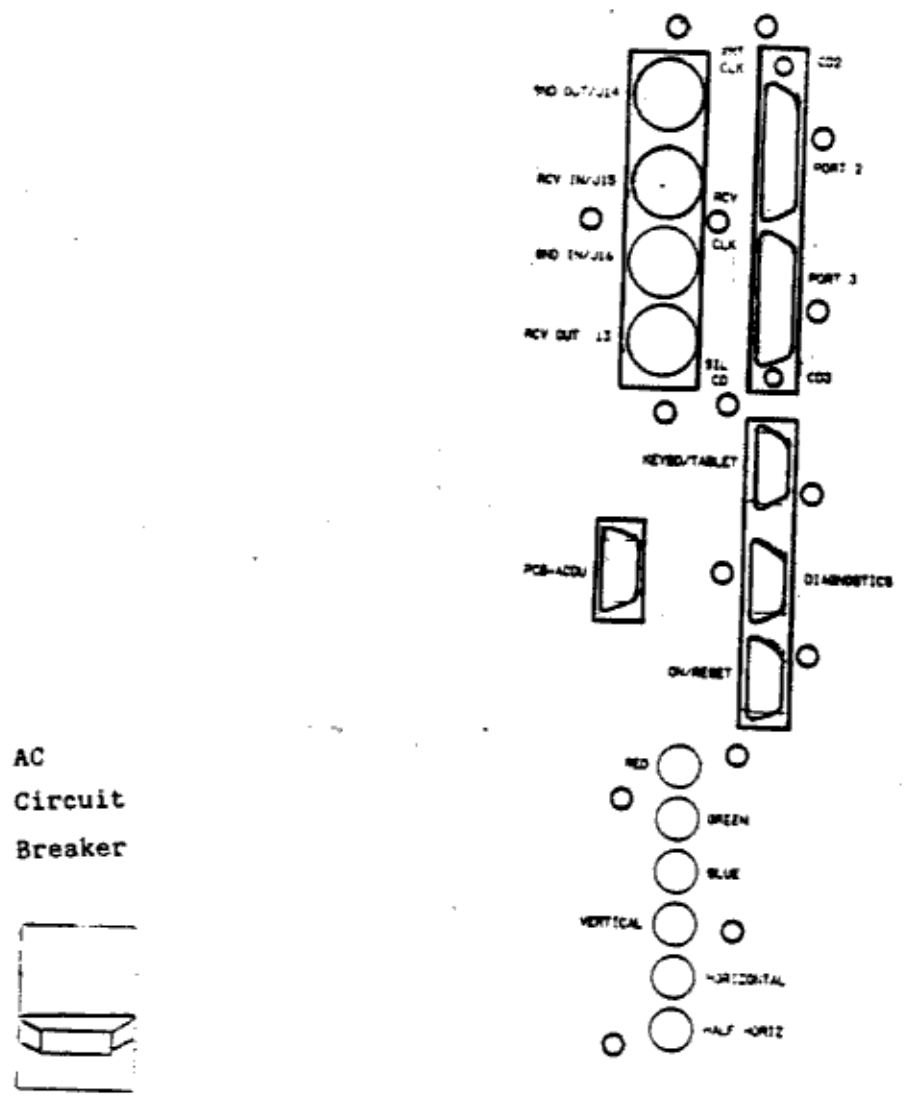

Figure 2-2 Floor Unit Connections and Switches
Floor unit switches and connections are shown in Figure 2-2 and are described in this section.
2. Connect the video cables to the Red, Green, Blue, Vertical and Horizontal inputs of the floor unit connector panel (see Figure 2-2).
7. At the floor unit, open the back door of the unit and install the SIL cables to the SIL connectors, located in the upper left of the back panel (see Figure 2-2). The cables and the inputs are labeled: J13, J14, J15, and J16.